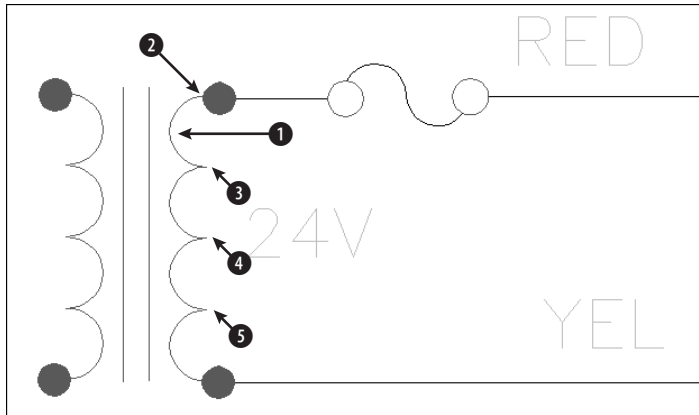

Figure 9-6: Close-up of the transformer
4.  Note that three of the arcs that make up the right side of the transformer are missing. Pick the arc at ❶ in Figure 9-6. Choose Copy Object from the Modify toolbar. Follow the prompts:
Specify base point: *Pick the endpoint at the top of the arc at ❷ (see Figure 9-6).*
Specify second point of displacement or <use first point as displacement>: *Pick the endpoint at the bottom of the first arc at ❸ (see Figure 9-6).*
Specify second point of displacement or <use first point as displacement>: Pick the endpoint at the bottom of the second arc at ④ (see Figure 9-6).
Specify second point of displacement or <use first point as displacement>: Pick the endpoint at the bottom of the third arc at ⑤ (see Figure 9-6).